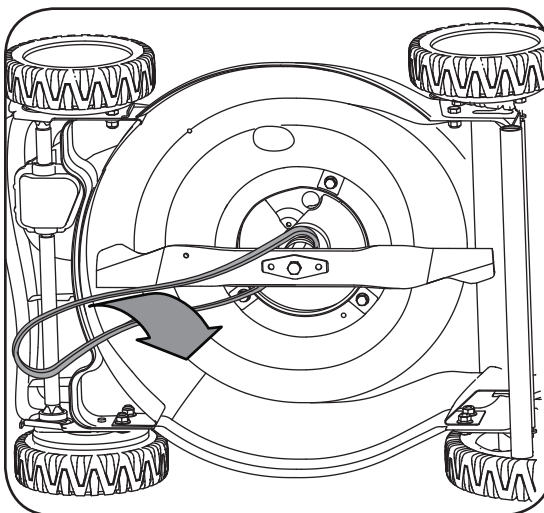

Figure 6
3. Push transmission up a little and slide belt off the transmission pulley. Lift mower to access belt from underside of mower. Slide belt off of engine pulley and around the blade. See Figure 6.